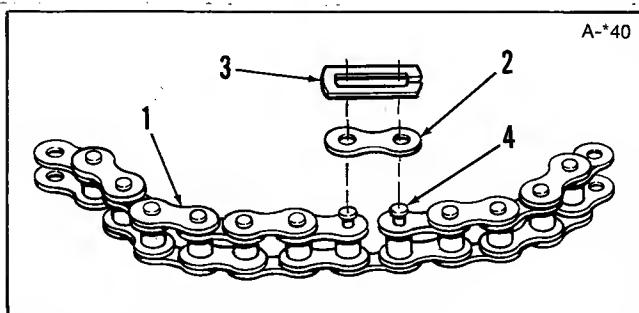

Figure 2. Chain Connecting Link
5. Place the sprocket (21, figure 1) in the chain. Wrap the chain around both sprockets and connect at the bottom with the master link (figure 2). The open end of the connecting link should be opposite direction of engine pulley rotation.